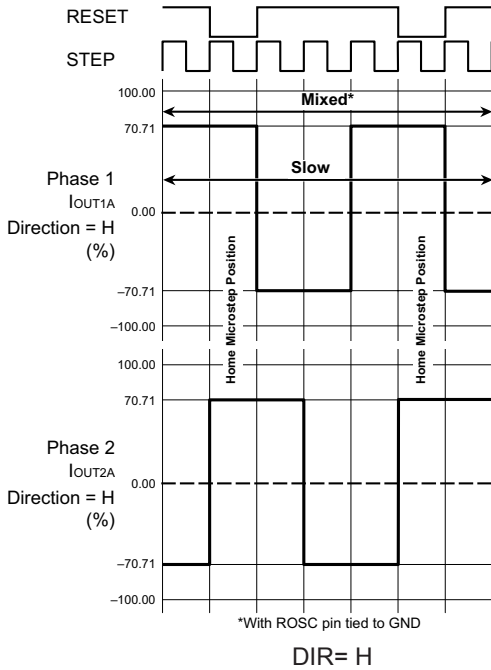

Figure 9: Decay Mode for Full-Step Increments
At power-on or reset, the translator sets the DACs and the phase current polarity to the initial Home state (shown in Figures 9 through 13), and the current regulator to Mixed Decay Mode for both phases. When a step command signal occurs on the STEP input, the translator automatically sequences the DACs to the next level and current polarity. (See Table 2 for the current-level sequence.) The microstep resolution is set by the combined effect of the MSx inputs, as shown in Table 1.
**Mixed Decay Operation.** The bridge operates in Mixed decay mode, at power-on and reset, and during normal running according to the ROSC configuration and the step sequence, as shown in Figures 9 through 13. During Mixed decay, when the trip point is reached, the A4988 initially goes into a fast decay mode for 31.25% of the off-time,  $t_{OFF}$ . After that, it switches to Slow decay mode for the remainder of  $t_{OFF}$ . A timing diagram for this feature appears on the next page.
**Reset Input ( $\overline{RESET}$ ).** The  $\overline{RESET}$  input sets the translator to a predefined Home state (shown in Figures 9 through 13), and turns off all of the FET outputs. All STEP inputs are ignored until the  $\overline{RESET}$  input is set to high.
**Mixed Decay Operation.** The bridge operates in Mixed Decay mode, depending on the step sequence, as shown in Figures 9 through 13. As the trip point is reached, the A4988 initially goes into a fast decay mode for 31.25% of the off-time,  $t_{\text{OFF}}$ . After that, it switches to Slow Decay mode for the remainder of  $t_{\text{OFF}}$ . A timing diagram for this feature appears in Figure 7.